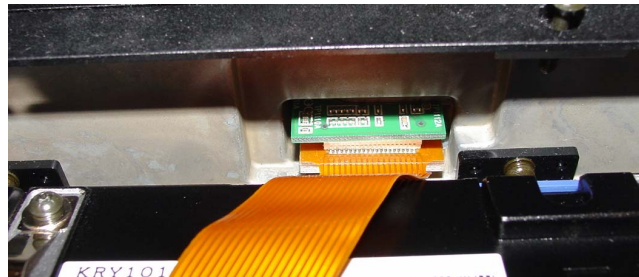

Figure 4-5: M7100/JAGUAR 725M
- a. For an M7100/JAGUAR 725M radio, unplug the flex cable (see Figure 4-5).